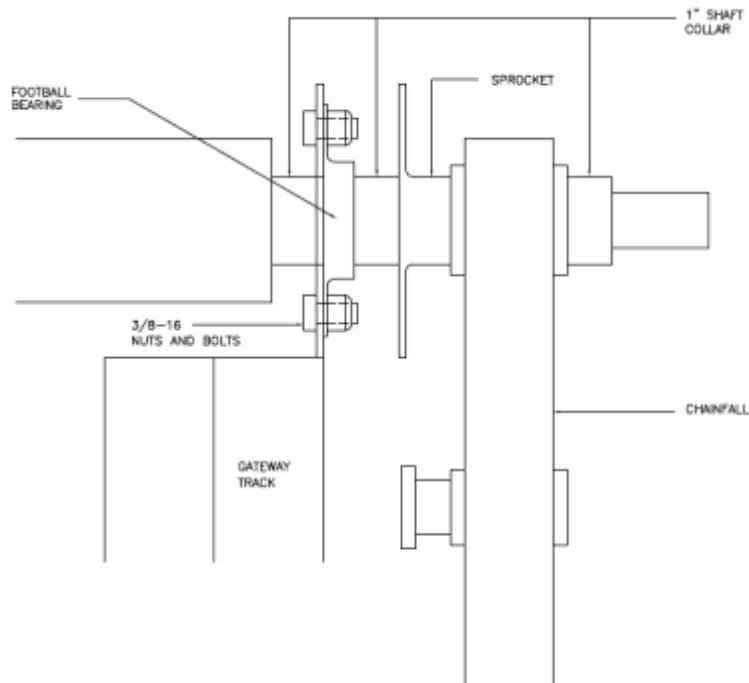

FIGURE 5
15. Fasten the bearing on the slotted plate with the 3/8 x 1/2 bolts and nylock nuts. Slide the shaft collar up against the inside of the bearing and tighten to hold the roll in place. (See Fig. 5).
17. Slide on the sprocket with the keyway and chainhoist assembly with the small sprocket down and facing the big sprocket and the last collar. (See Fig. 5).